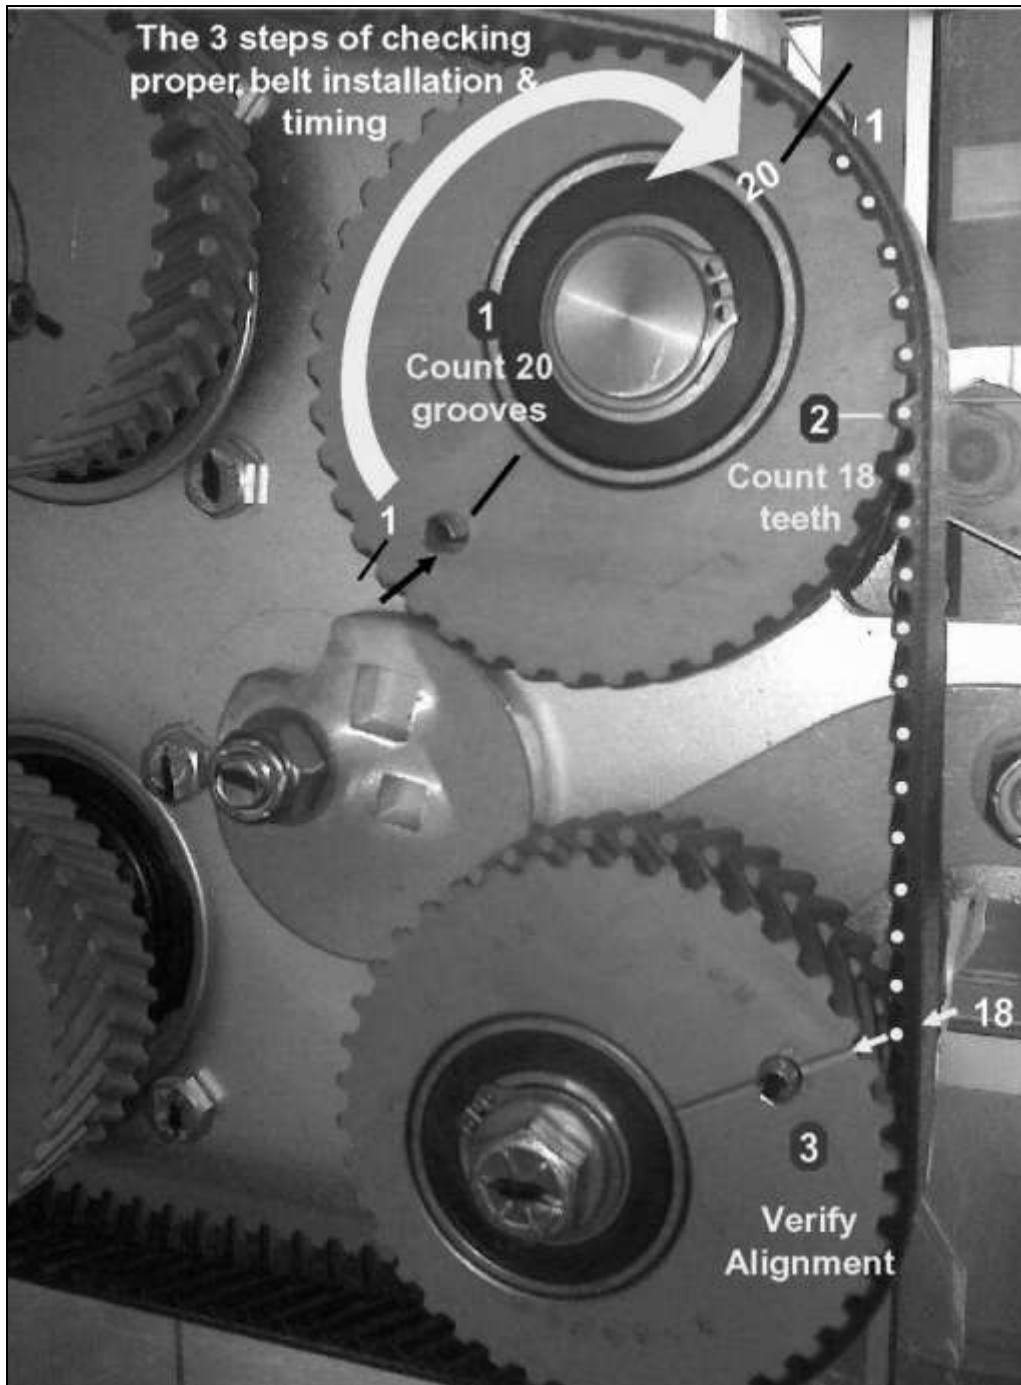

Figure 5-1 – Three steps to ensure proper belt timing
- 13 Follow the three steps illustrated in Figure 5-1 to ensure proper belt timing:
1. Starting at timing pin, count twenty (20) sprocket grooves clockwise.
2. From there, count eighteen (18) teeth on belt.